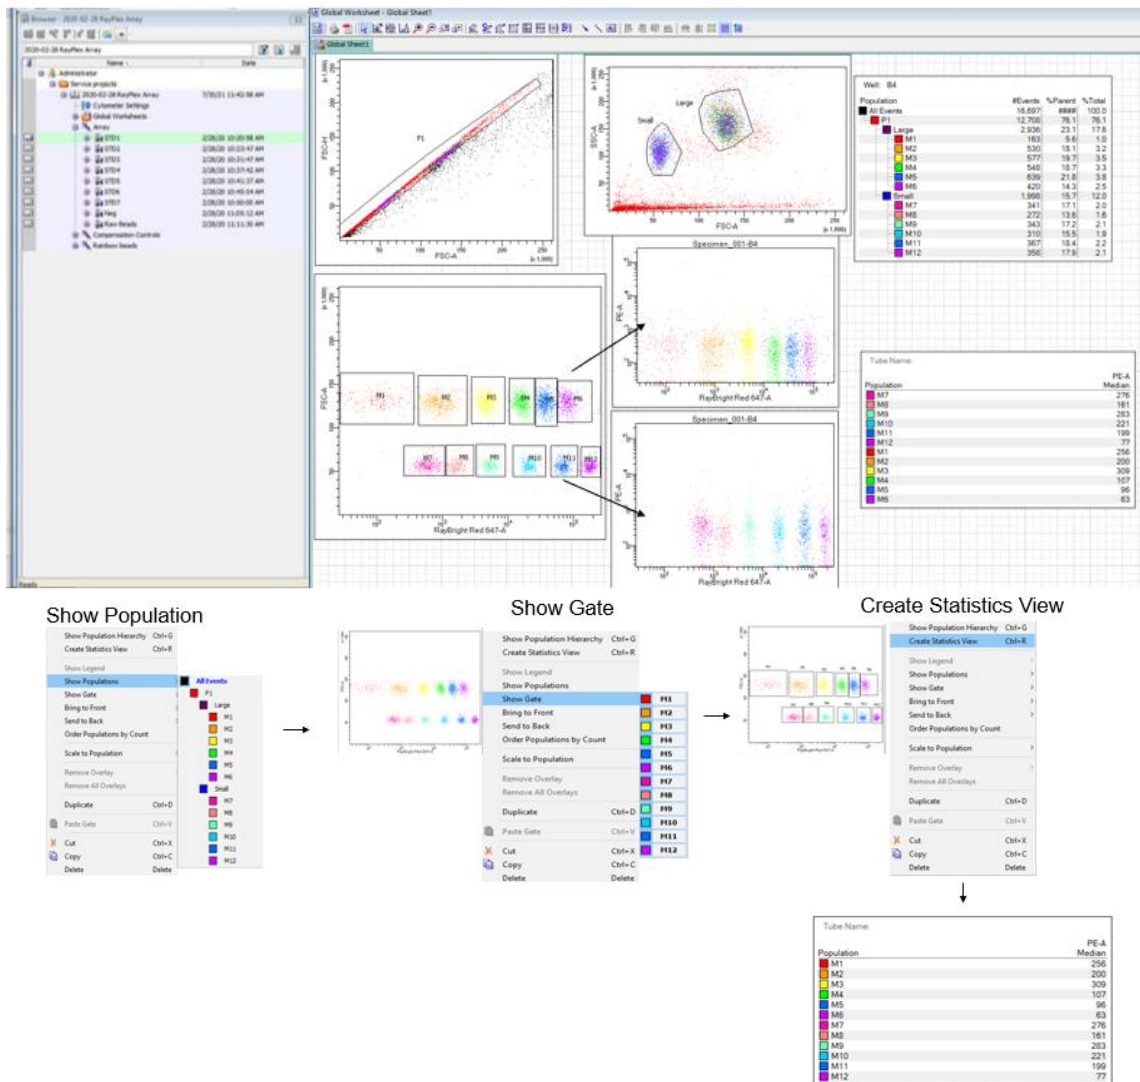
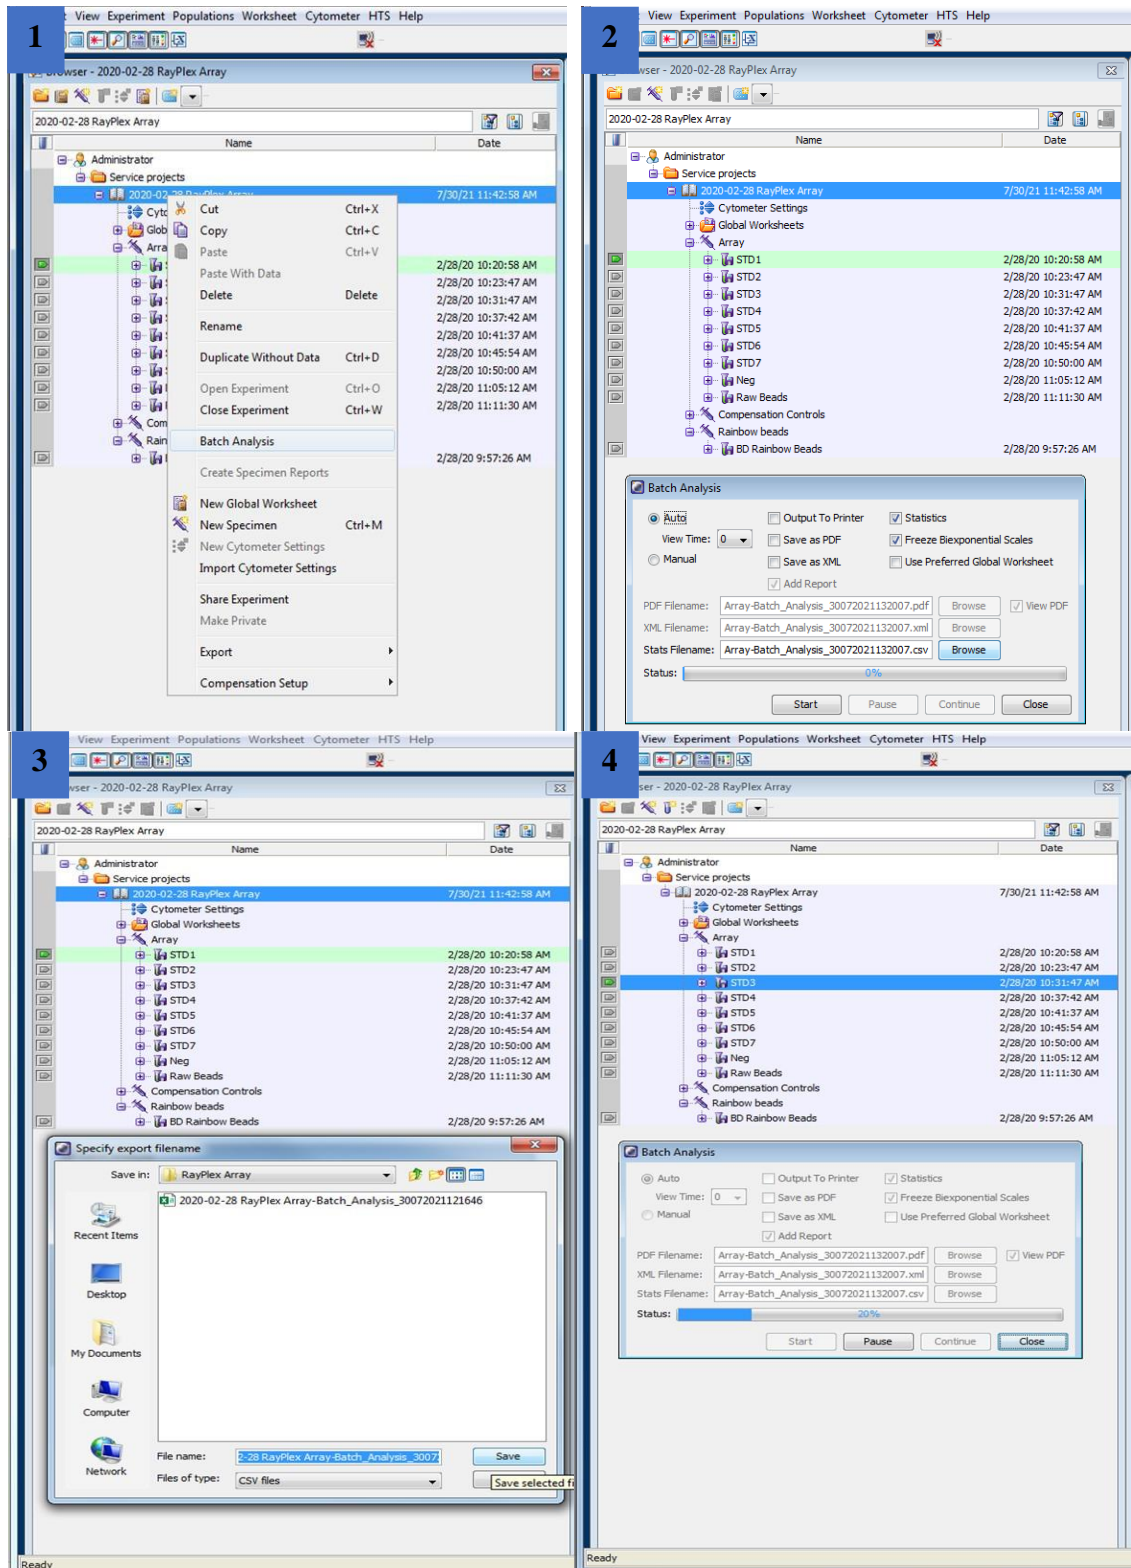

Figure 4. Screenshot of Creating Statistics View from the dot plot of gated beads populations. This is representative data only.
Figure 5. Screen shot showing how to begin the batch analysis through manual tube mode.
Batch analysis allows exporting PE MFI data of each bead population directly from FACS Diva. Before batch analysis, it's important to create statistics view from the dot plot of gated beads populations and choose "PE-A Median" to be shown (Figure 4). Batch analysis can be done in either manual tube mode or HTS mode. Both methods for batch analysis are described below (Figure 5 and 6).
1. Create a dot plot by SSC-A (linear) and APC-A (log) to show all beads populations and make a gate for each population (see figure 4, "Gated Dot
Plot”). Right click on the dot plot to “Create Statistics View”, then edit the statistics view so that “PE-A Median” of gated beads populations are shown (figure 4, “Statistics View of Gated Plot”).